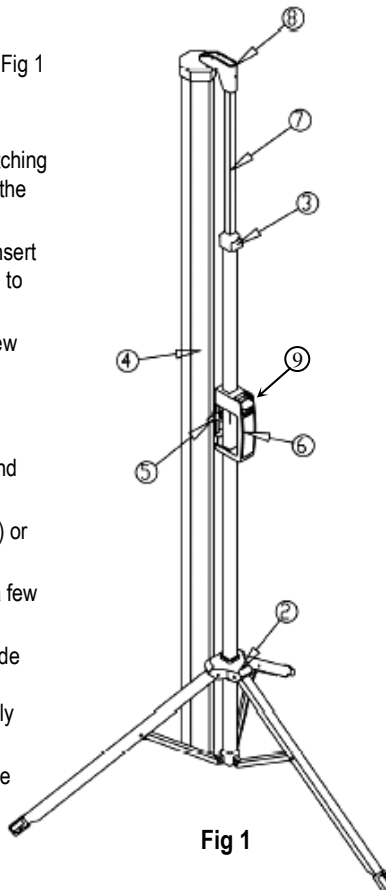

Fig 1
- 1 Open Tripod Base and stand Upright as shown - Fig 1
- 2 Extend legs by pushing down on top of Tripod assembly (2)
- 3 Hold Case (4) horizontal against the Upright, matching the Pin on the case with the hole at the center of the Red Ring (5).
- 4 Rotate the Red Ring (5) counter-clockwise and insert the Case Pin into the hole, allowing the Red Ring to spring back, locking the Case to the Upright.
- 5 Press Autolock (3) & raise Extension Rod (7) a few inches
- 6 Rotate Screen Case (4) to horizontal position.
- 7 To use **Keystone Eliminator**, hidden inside the Hanger Bracket (8) tube, pull out from the tube and fold down extending over Hanger Bracket (8).
- 8 Raise Fabric (4) and place on Hanger Bracket (8) or Keystone Eliminator.
- 9 Squeeze Handle Trigger (9) and raise Case (4) a few inches, anticipating Step 8 below.
- 10 Hold Extension Rod (7) firmly with one hand and guide the Rod up when you press Autolock (3). Raise Extension Rod (7) as far as it will go, to completely open the screen. **See Important Note below!**
- 11 For a flat and rigid screen surface, release Handle Trigger (9) and press down on handle (6) to stretch screen surface.